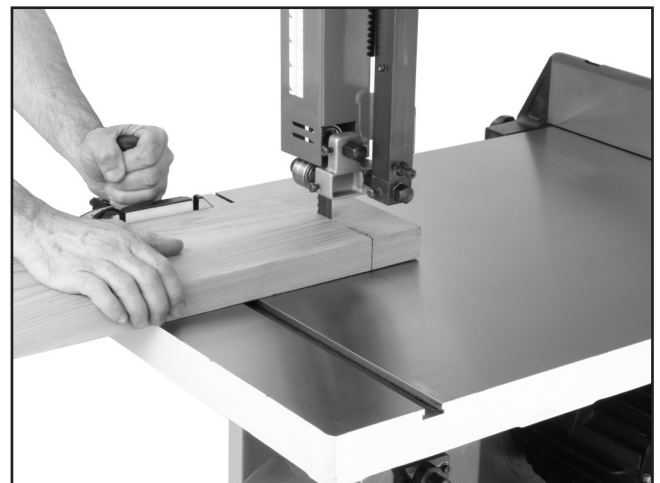

Figure 44. Example of crosscutting operation with miter gauge.
5. After all safety precautions have been met, turn the bandsaw **ON**. Slowly feed the workpiece into the blade and continue the cut until the blade is all the way through the workpiece. **Figure 44** shows a typical crosscutting operation.